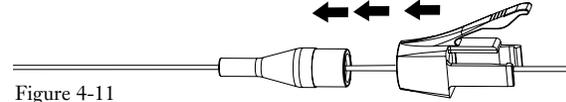

Figure 4-11
4.4-1 Slide the 900  $\mu\text{m}$  boot (small end first) and then the trigger down the fiber until they are out of the way (Figure 4-11).